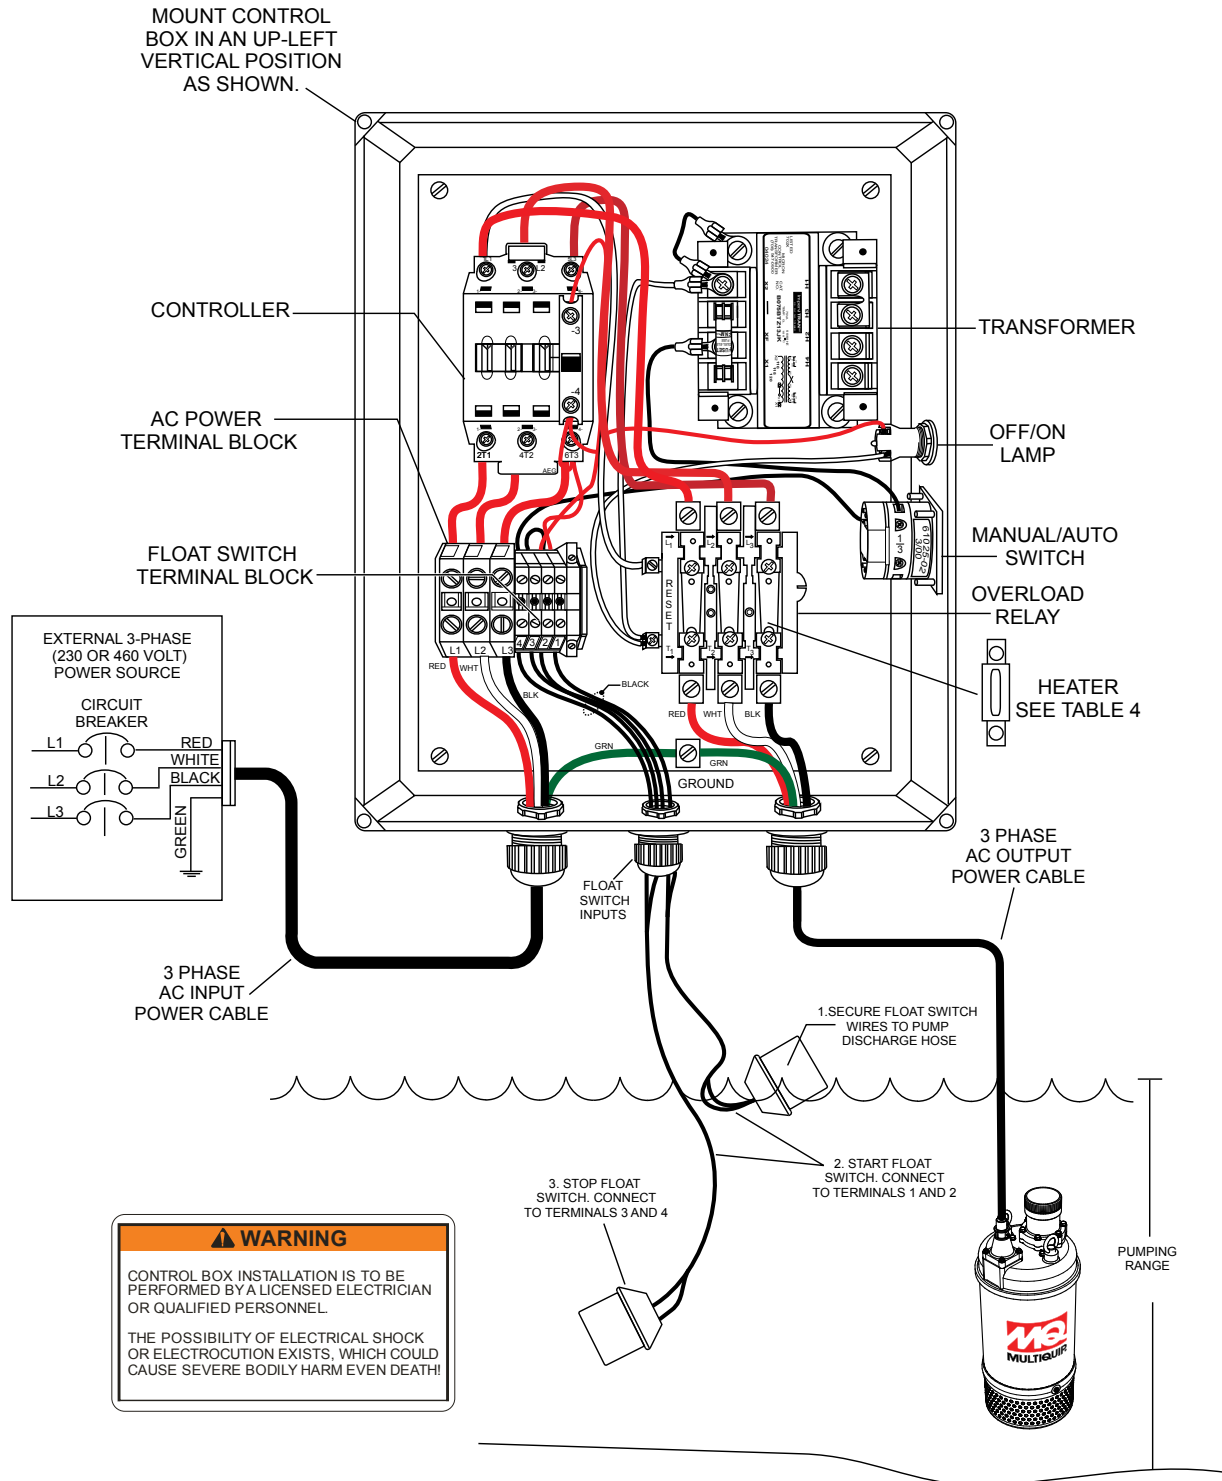

Figure 8. Three Phase Control Box/Pump System Diagram
1. Remove the float switch input connector housing, then route the float switch wires through the cable gland on the control box. Attach the wires of the float switch to the terminal block as indicated by Table 6 and Figure 8.
2. Remove the 3-phase AC input connector housing from the control box, then route the three phase input power cable through the cable gland on the control box. Attach the wires to the AC terminal block inside the control box as indicated by Table 7 and Figure 8.
2. Remove the 3-phase AC output power connector housing on the control box, then route the output power cable through the cable gland on the control box. Attach the wires to the AC terminals on the overload relay module (heaters load side) as indicated by Table 8 and Figure 8.